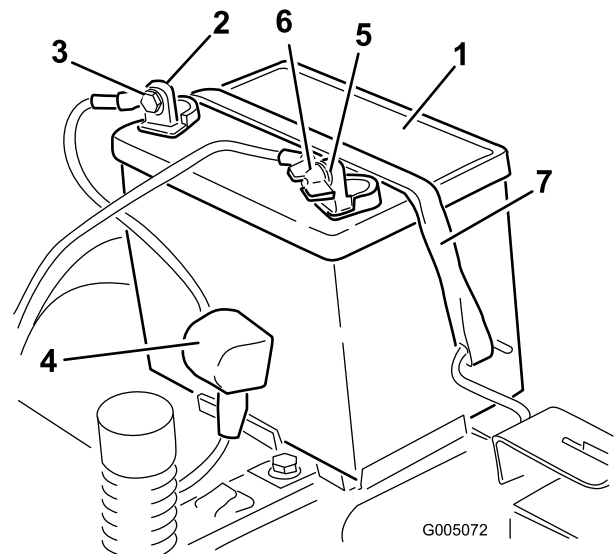

Figure 29
4. Disconnect the negative (black) ground cable from the battery post (Figure 29). Retain all fasteners.
5. Slide the rubber cover up the positive (red) cable. Disconnect the positive (red) cable from the battery post (Figure 29). Retain all fasteners.
6. Remove the battery hold-down (Figure 29) and lift the battery from the battery tray.
1. Position the battery in the tray with the terminal posts toward the operating position (Figure 29).
5. Secure the battery with the hold-down (Figure 29).